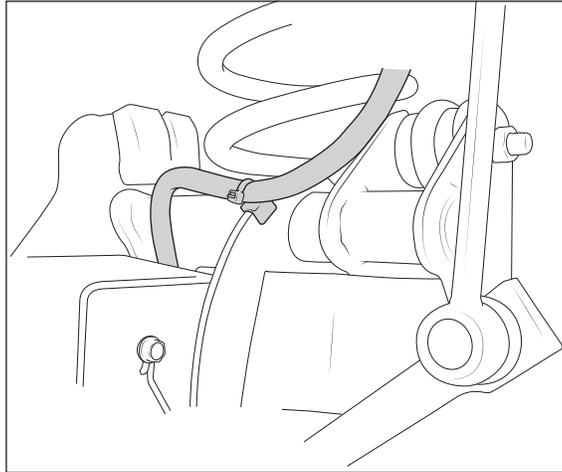

Figure 48
9. Reattach the axle vent to new track bar tower (fig. 48).